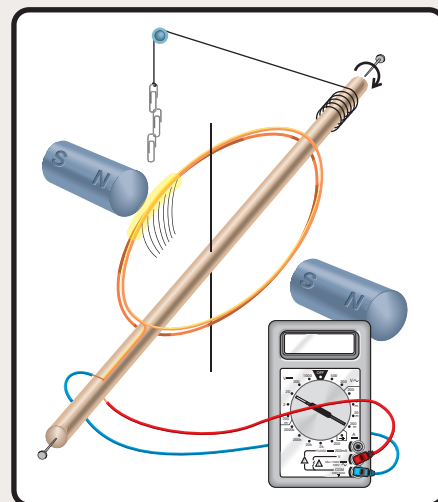

Figure C1.31
- step 3:** Replace the battery pack with a digital multimeter set up as a voltmeter, as shown in Figure C1.31.